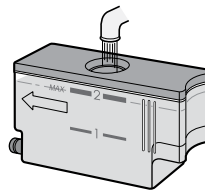
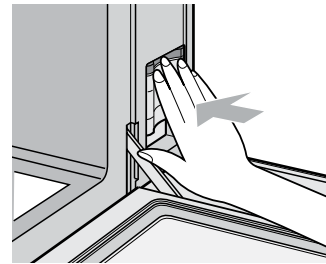

Figure 2
Figure 3
3. Fill the water tank with room temperature water suitable for drinking (ltered) through the lid to the 2 mark (MAX mark) each time you begin to cook. (Figure 2) Do not fill the water tank over the 2 mark (MAX mark).
5. Install the water tank by pushing firmly. (Figure 3)
**3** Place baking tray on upper level. Place descaling guide on the right side edge of baking tray as shown in Figure 1. Push down the right side edge of descaling guide to insert the projection between the wall and the baking tray as shown in Figure 2. Check that the edge of the descaling guide is below all steam outlets/screw heads as shown in Figure 3.